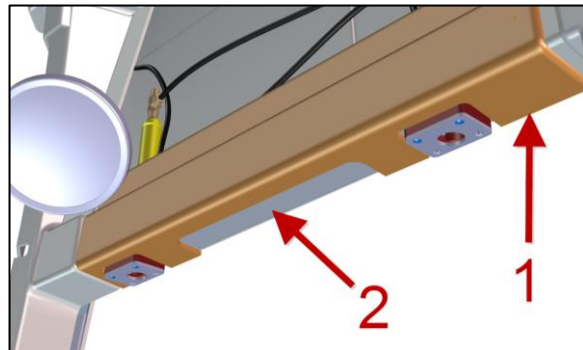
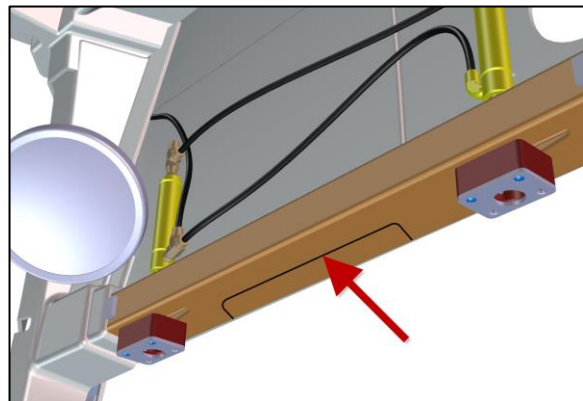

Figure 4
Figure 5
6. Use a non-permanent marker to project the shape of the light opening of the moulding on the vehicle metal structure (item 2, Figure 4).
7. Remove the new entrance door upper moulding (item 1, Figure 4). The arrow in Figure 5 shows the projection of the moulding opening.